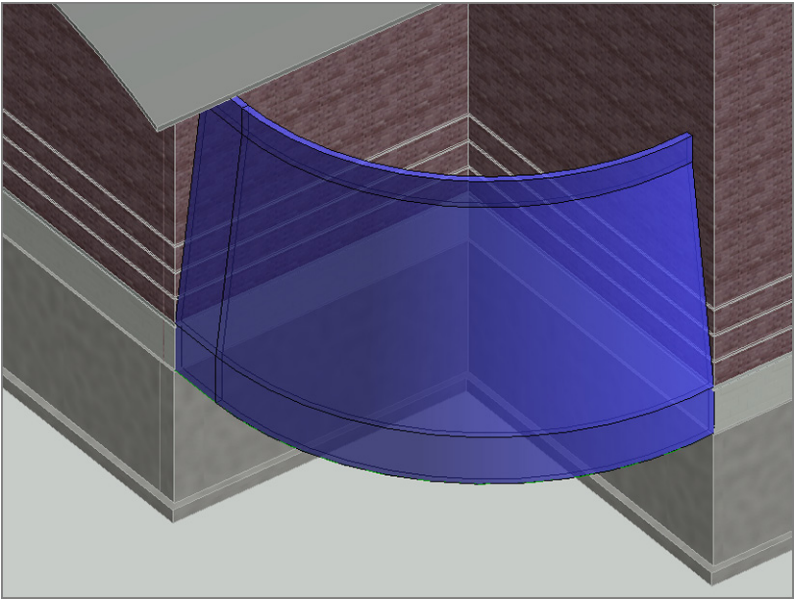

FIGURE 16.47: The finished mass
7. When the form is placed, click the Finish Mass button. You should be looking at what is shown in Figure 16.47.